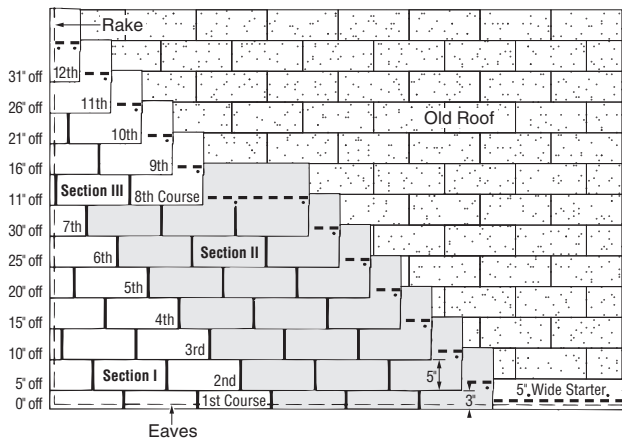

Figure 10-21: Five Off, Twelve Up, Nested.
1ST COURSE: The first course is made of 10" by 36" shingle strips made by cutting 2" off the bottom of the tabs of regular shingles. Align the top edge of the strips so they butt up against the tabs of the shingles in the old third course (*Figure 10-21*).
1. Begin the second course by cutting 5" off the left end of a shingle and aligning the top edge with the butt edge of the shingle in the old fourth course (*Figure 10-21*).
1. Begin the eighth course by cutting 11" off the left end of a shingle and applying the 25" piece over the seventh course shingle, aligned with the left edge of the seventh course (*Figure 10-21*).